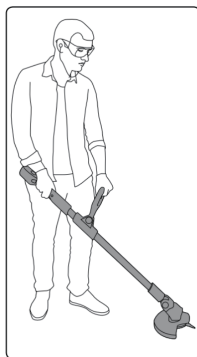

Fig. 10-1
- Using as a string trimmer (Fig. 10-1)